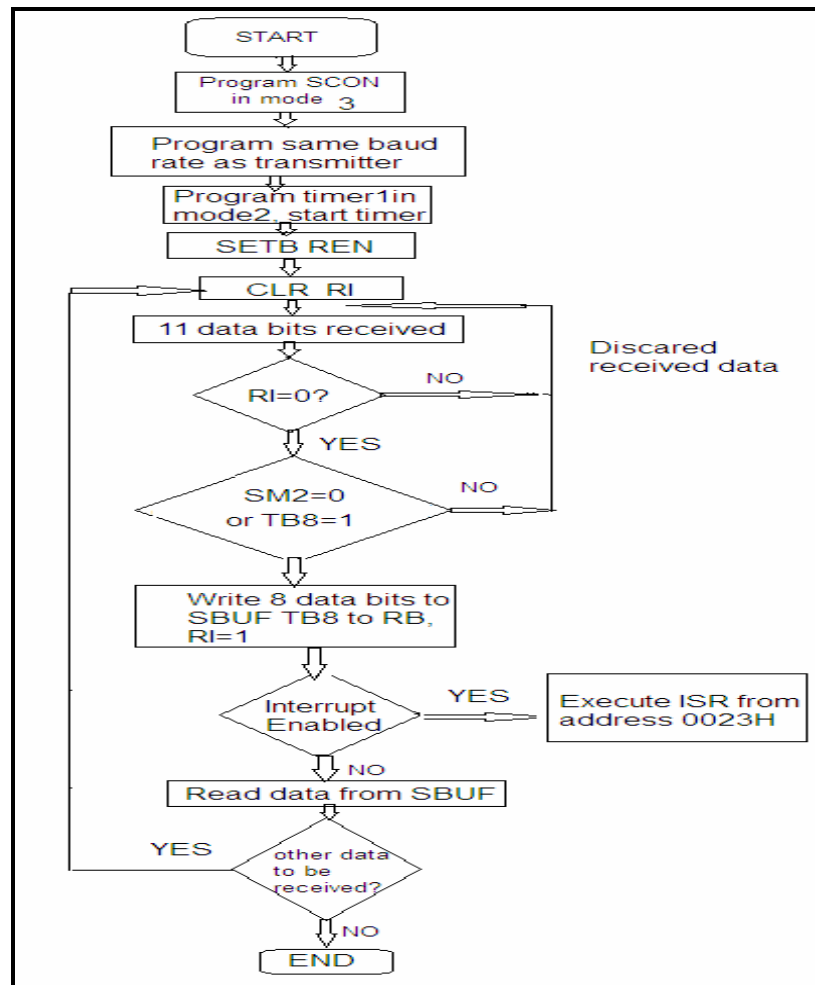

Fig. 2-8-14 Control flow of serial port mode 3 reception
3. Receive : See Figure 2-8-14.